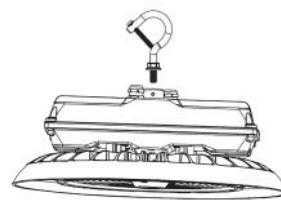

Fig. 1
- Screw the hook into the fixture and tighten to secure. (Fig. 1)